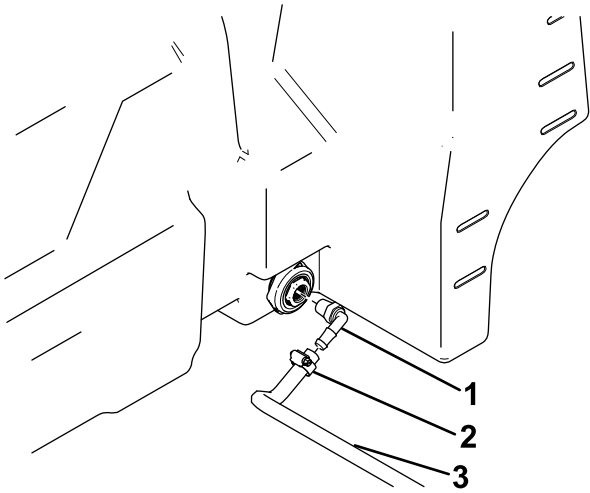

Figure 5
9. Attach a 90° hose fitting to the tank (Figure 5).
**Note:** Ensure that the 90° hose fitting is angled as shown in Figure 5.
10. Secure an end of the 2.4 m (96 inch) hose to the 90° hose fitting with a hose clamp (Figure 5).